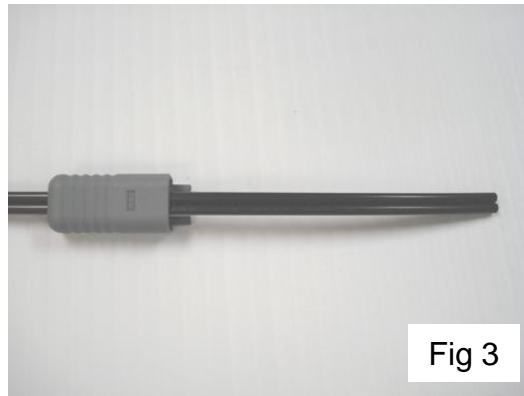

Fig 3
- If this cable is being terminated with the long connector, slide the cover housing onto the assembly (Figure 3).